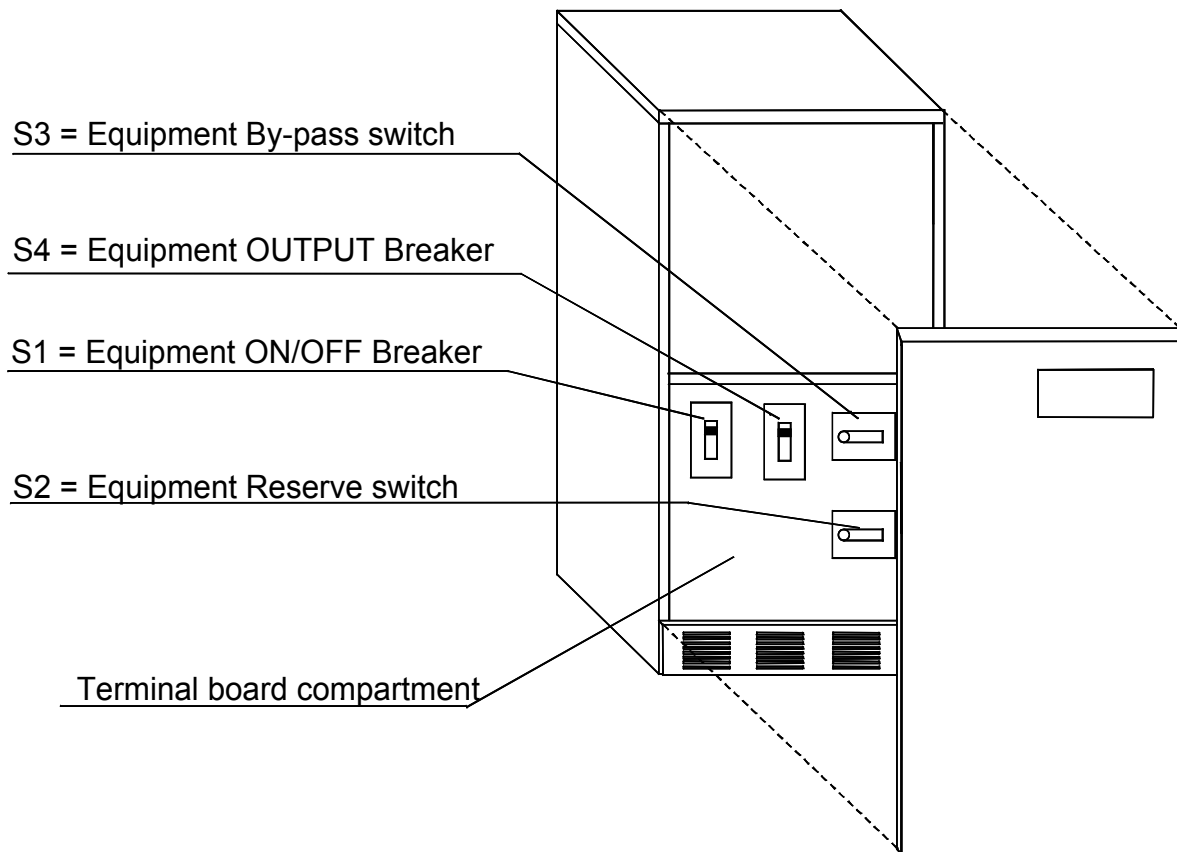
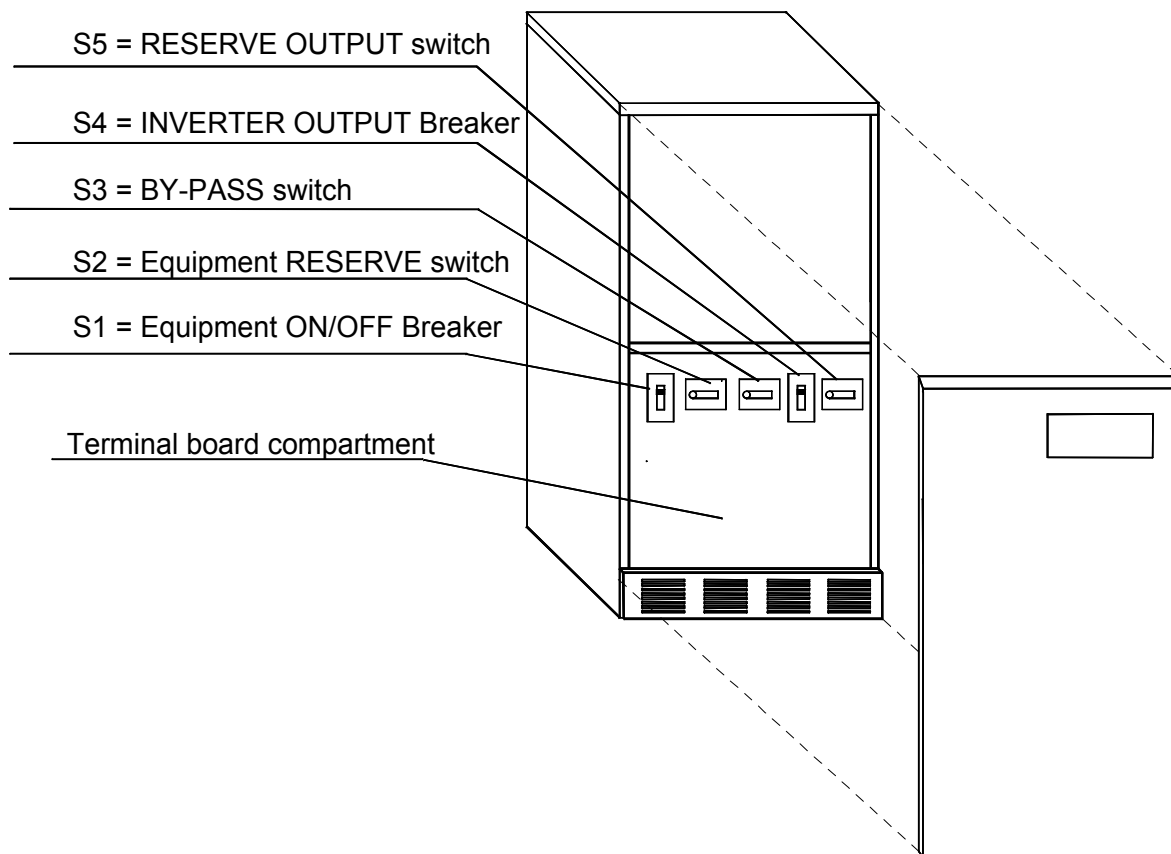

Figure 21 - 36 – 24/30/36kVA: Switches and Breakers
Figure 24 – 50/80kVA: Switches and Breakers
2. Turn on the Utility supply Input, Reserve Input (if fitted) and UPS Output switches located behind the front panel, see figure 18 for 24kVA, figure 21 for 36kVA or figure 24 for 50/80kVA.
6. Press the Inverter On push button (I).